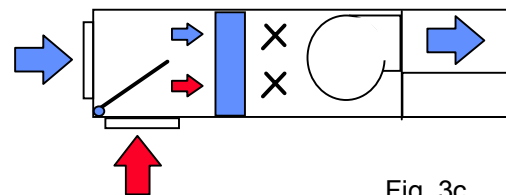

Fig. 3c
C. MODULATING FUNCTION (fig. 3c)